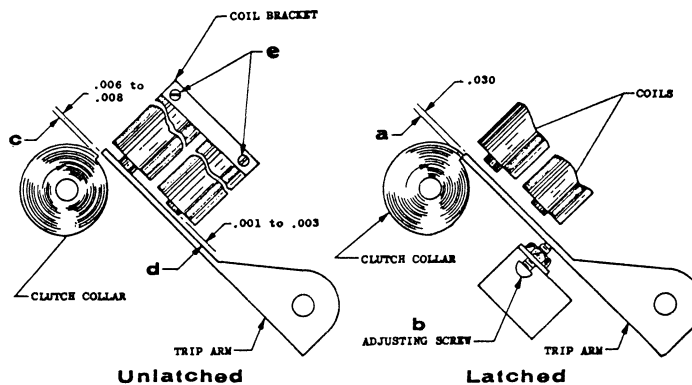

Figure 4-9. Clutch Coil and Trip Arm
5. CLUTCH COIL AND TRIP ARM (figure 4-9)